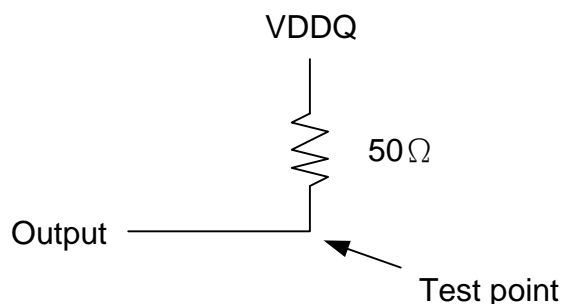

Figure 2: Pulldown slew rate test load
b. Pulldown slew rate is measured under the test conditions shown in Figure 2.